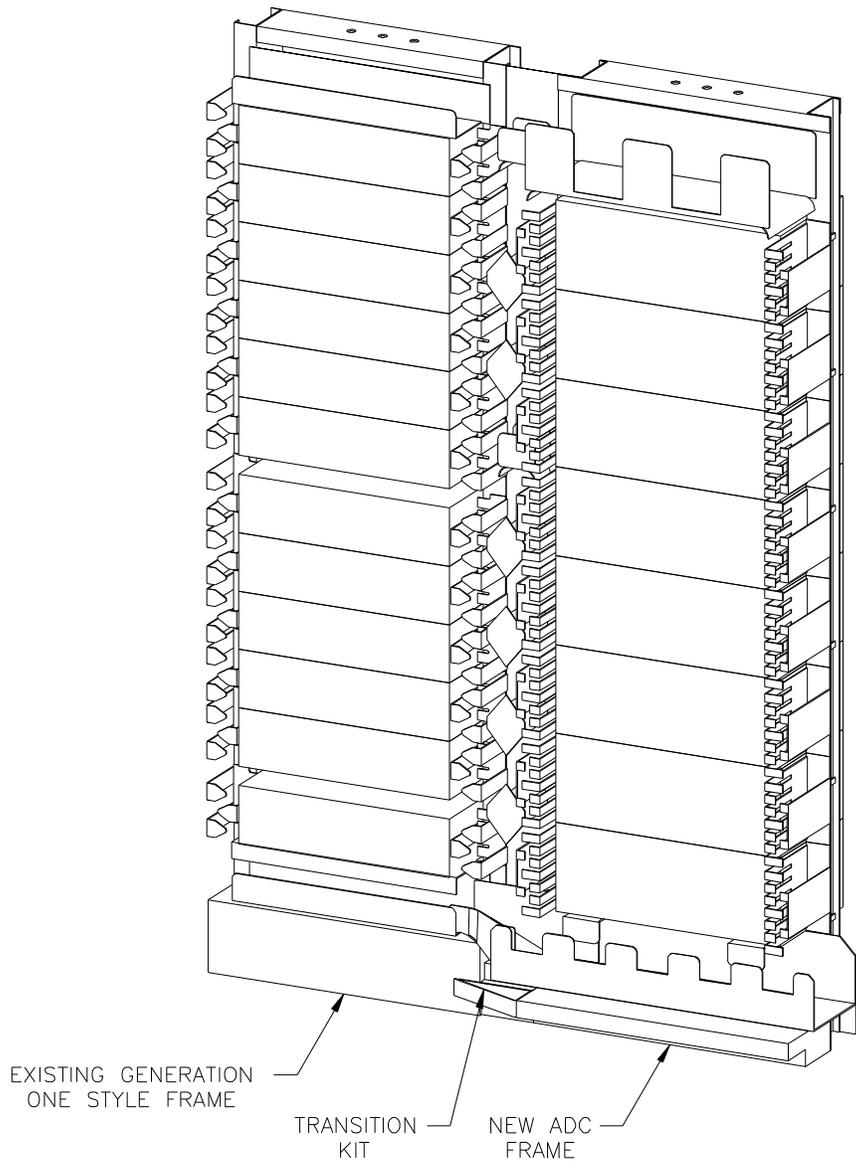

Figure 9-8. ADC Generation One Transition
- 9.5.2.1 ADC frames feature upper and lower horizontal cable troughs which makes transitioning easier between the existing generation one and new ADC platform (See Figure 9-8.)